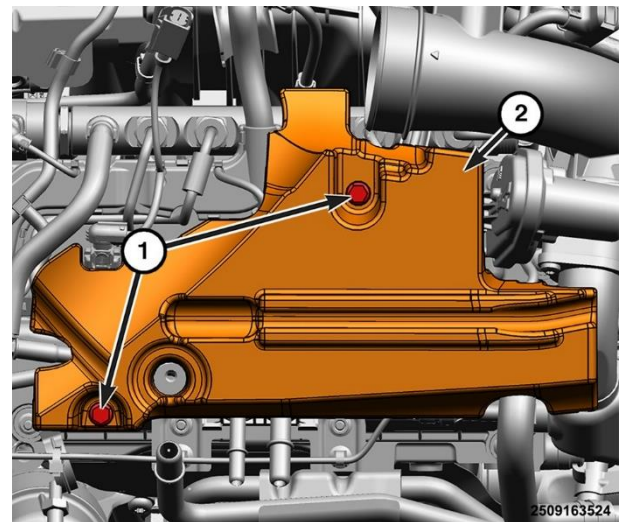

Figure 184 – Left Fuel Rail Cover
20. Remove the left fuel rail cover bolts (1) and the left fuel rail cover (2) (Figure 184).